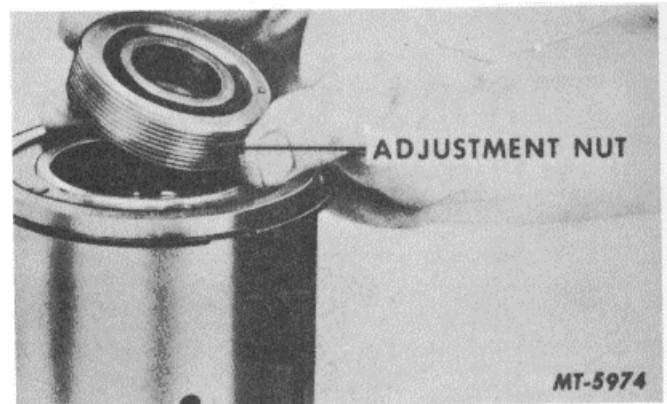

Fig. 22
19. Remove valve adjustment nut from piston, Fig. 22.